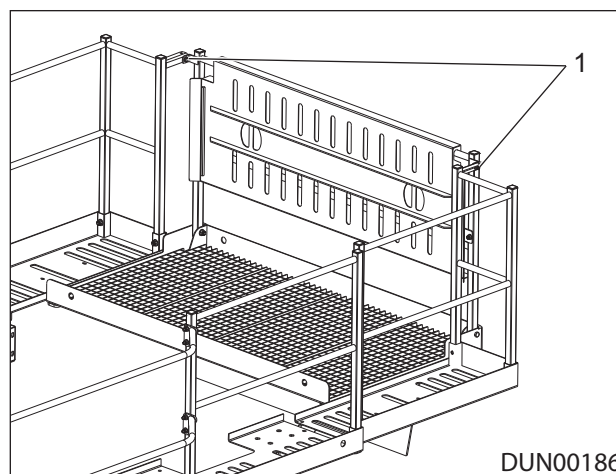

Figure 5.20 - Rear Handrail Brackets
2. Remove the bolts and brackets (item 1) from either side of the rear handrail, Ref: Figure 5.20.